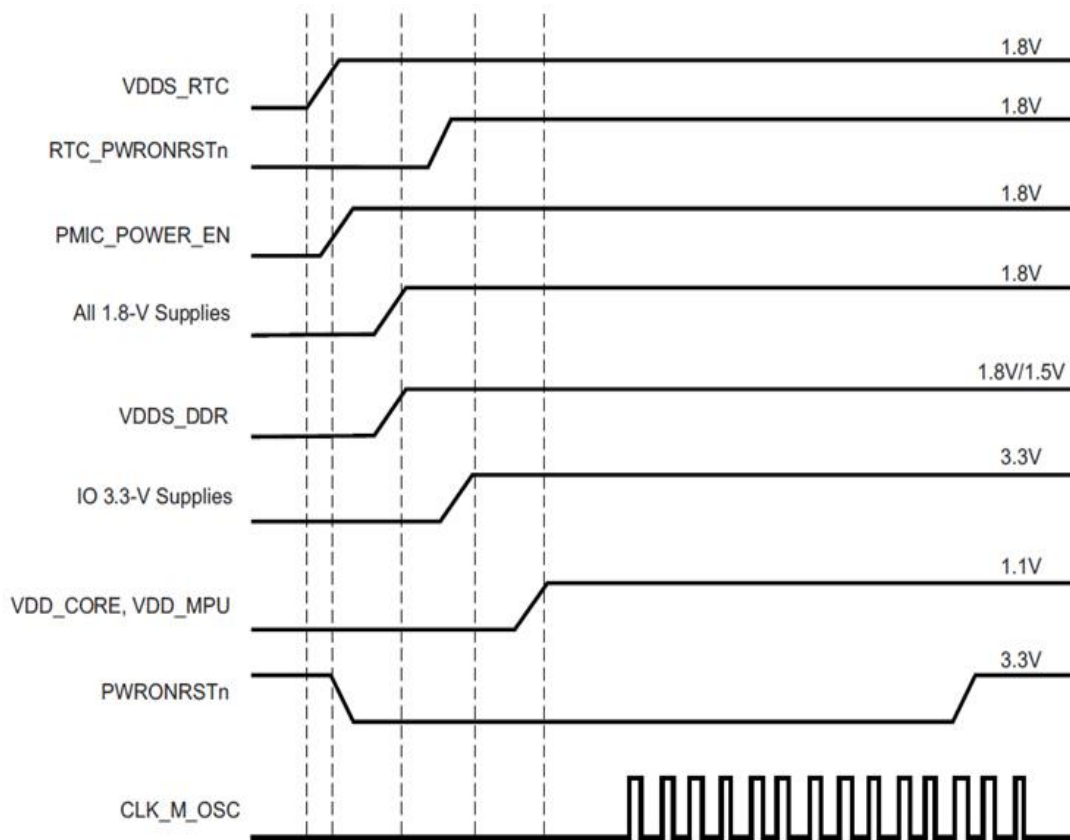

Figure 4-2 Power-on Order
- ◆ Power-on Order shows in figure 4-2.